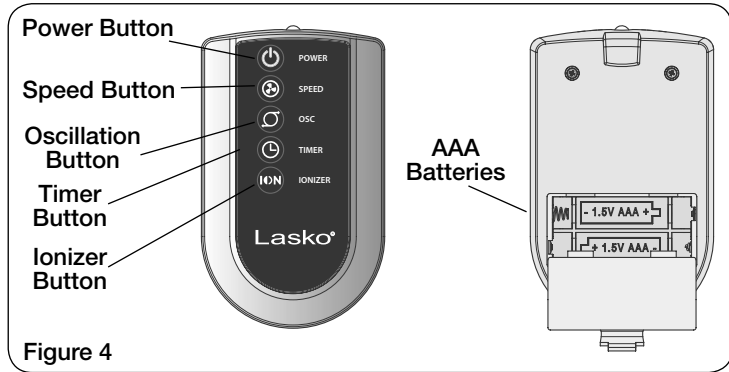

Figure 4
1. Install batteries (not supplied) as shown in Figure 4. The battery is size "AAA".
This Fan may be operated by the Manual Controls located on front of the unit or by the Remote Control (shown in Figure 4).